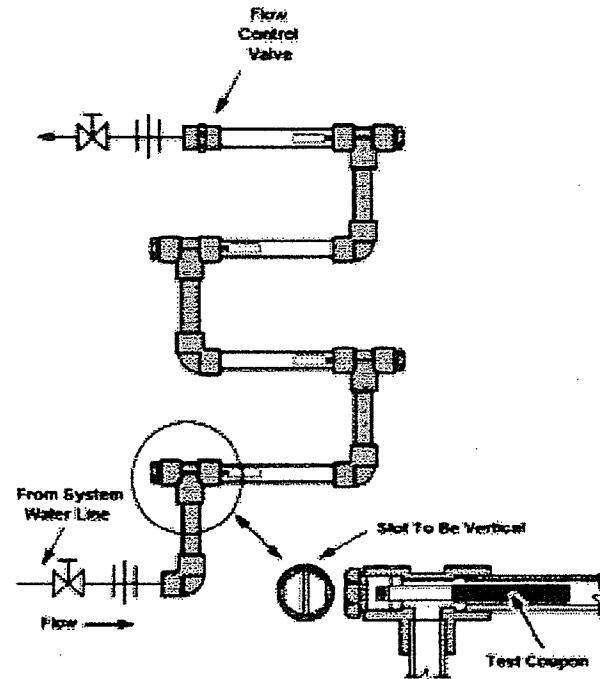

Figure 1
water, process water systems, etc. The PVC Rack is constructed of 1" threaded Sched. 80 PVC pipe. It is supplied with four 1" PVC mounting plugs and an 8 gpm Dole™ flow control valve. Two designs are available. One is constructed of all gray, opaque PVC. The other features transparent pipe sections for viewing the test coupons in place. See Figures 1 & 2. To discourage algae growth in the transparent sections, opaque snap-on pipe covering is supplied with this corrosion rack.
1. The Corrosion Test Rack may be assembled for vertical mounting as shown in Figure 1, or a horizontal position, Figure 2. Items shown in single line schematic are not furnished.